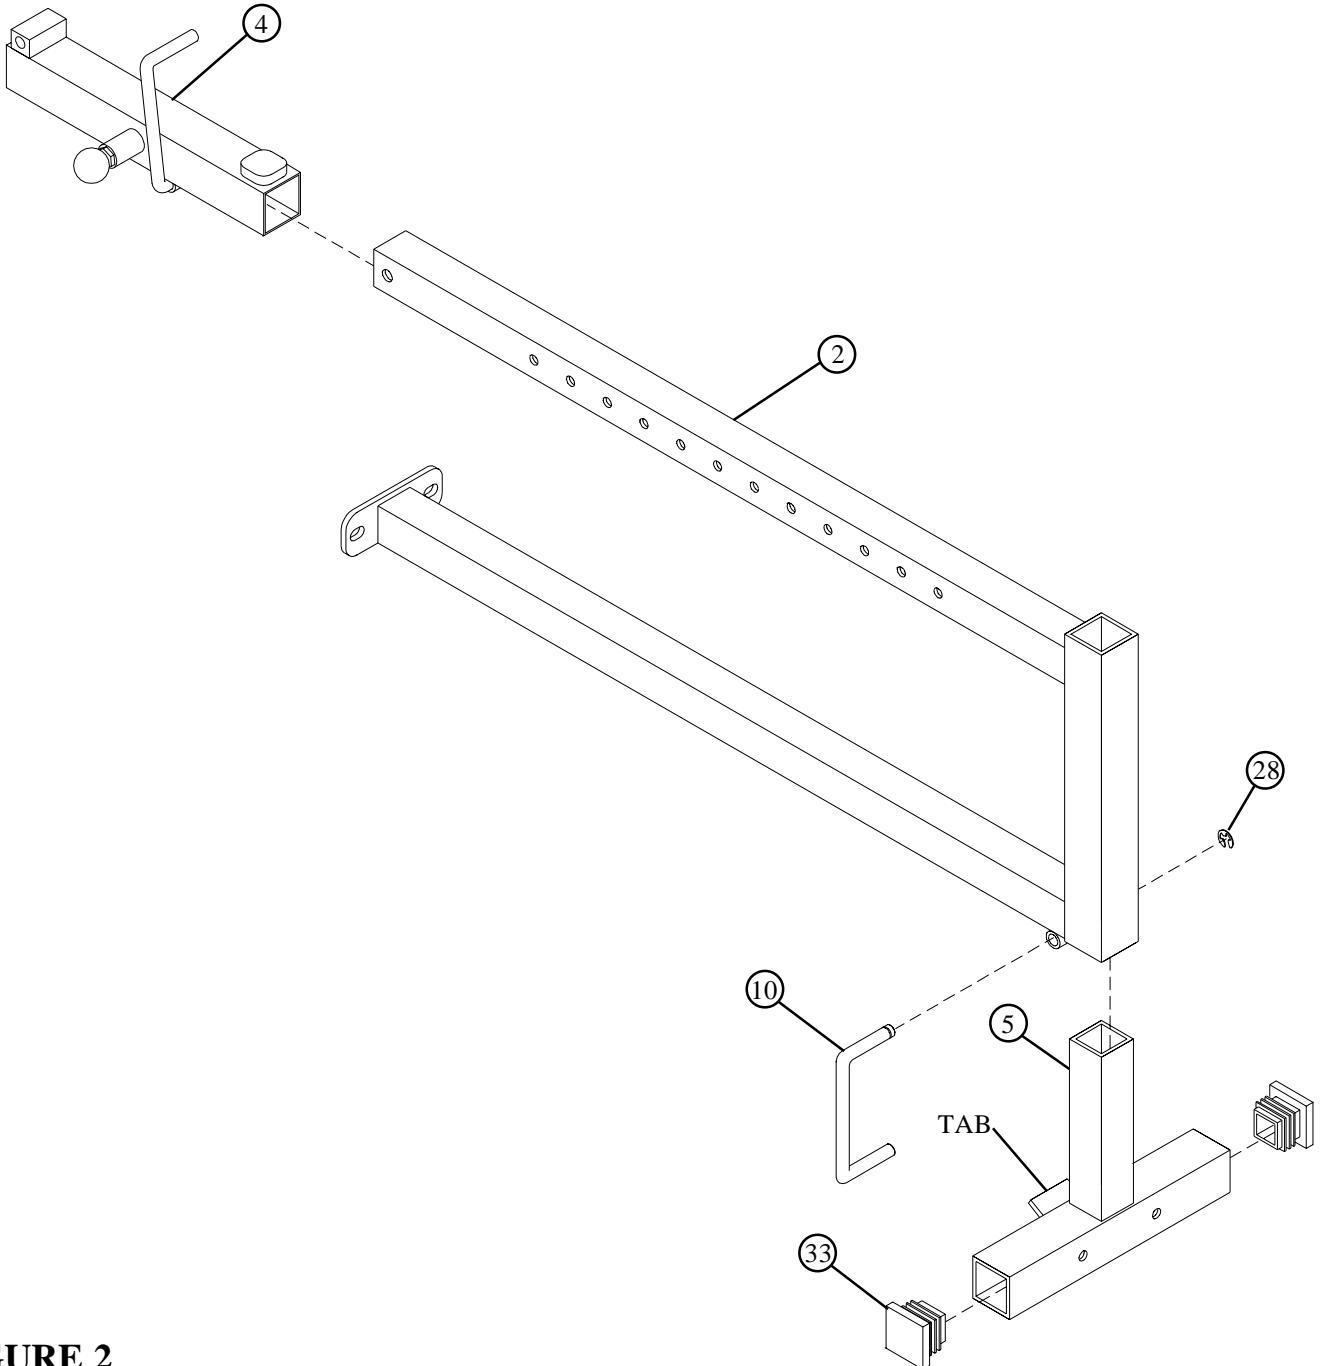

FIGURE 2
- Pull back the SPRING PIN on the SEAT ADJUST (4) and slide it over the end of the BENCH FRAME (2) as shown in FIGURE 2. Engage the SPRING PIN into one of the adjustment holes.
- Insert two 2" SQ. END CAPS (33) into both ends of the BASE LEG (5) as shown in FIGURE 2.
- Insert one U-PIN (10) through the BUSHING on the bottom of BENCH FRAME (2) and attach one E-RING (28) to the end of the U-PIN (10) as shown in FIGURE 2.
- Insert the BASE LEG (5) into the front of the BENCH FRAME (2) as shown in FIGURE 2. **(MAKE SURE THAT THE TAB ON THE BASE LEG IS UNDER THE BENCH FRAME)**